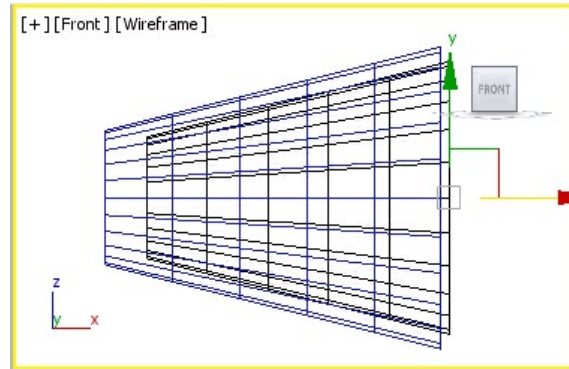

Figure 11-67 The *cap002* geometry after the alignment
9. Activate the Front viewport and then choose the **Select and Move** tool and align *cap002* with *cap01*, as shown in Figure 11-67.